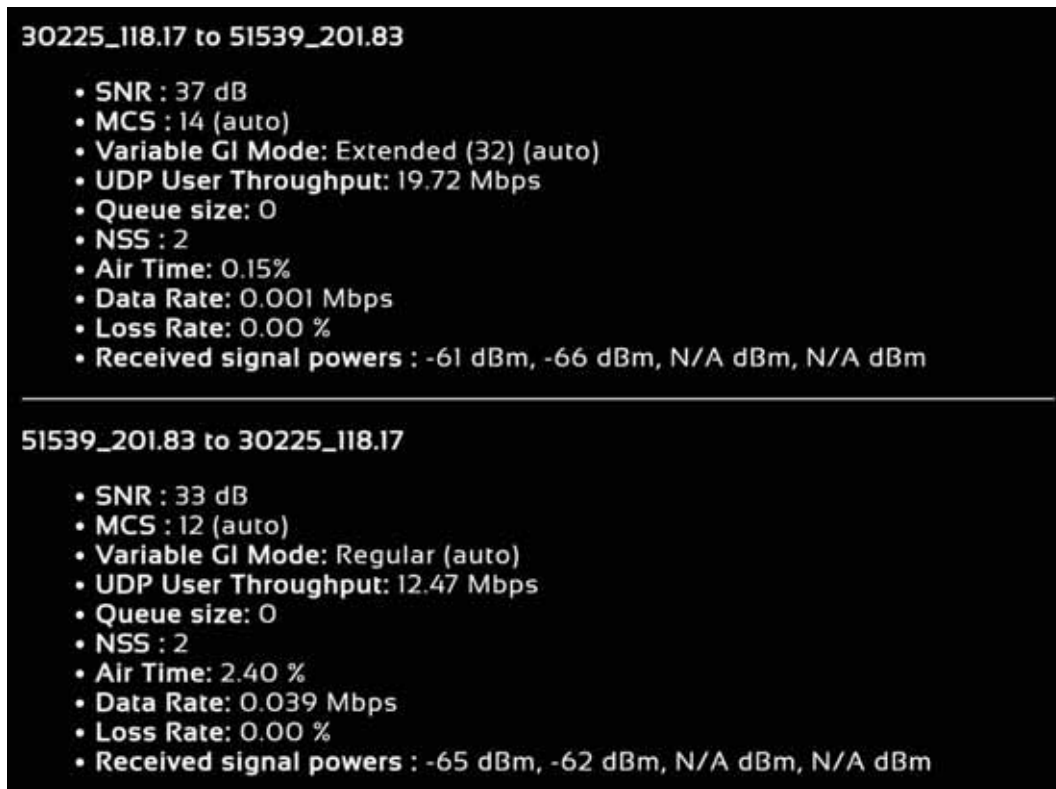

Figure 44 Link Characteristics
- **Link Characteristics** – By double clicking the mouse on any link in the network, users can view key operating characteristics of that link. **Figure 44 Link Characteristics** shows an example of this for the link between 'node30225' and 'node51539'. The characteristics shown are: